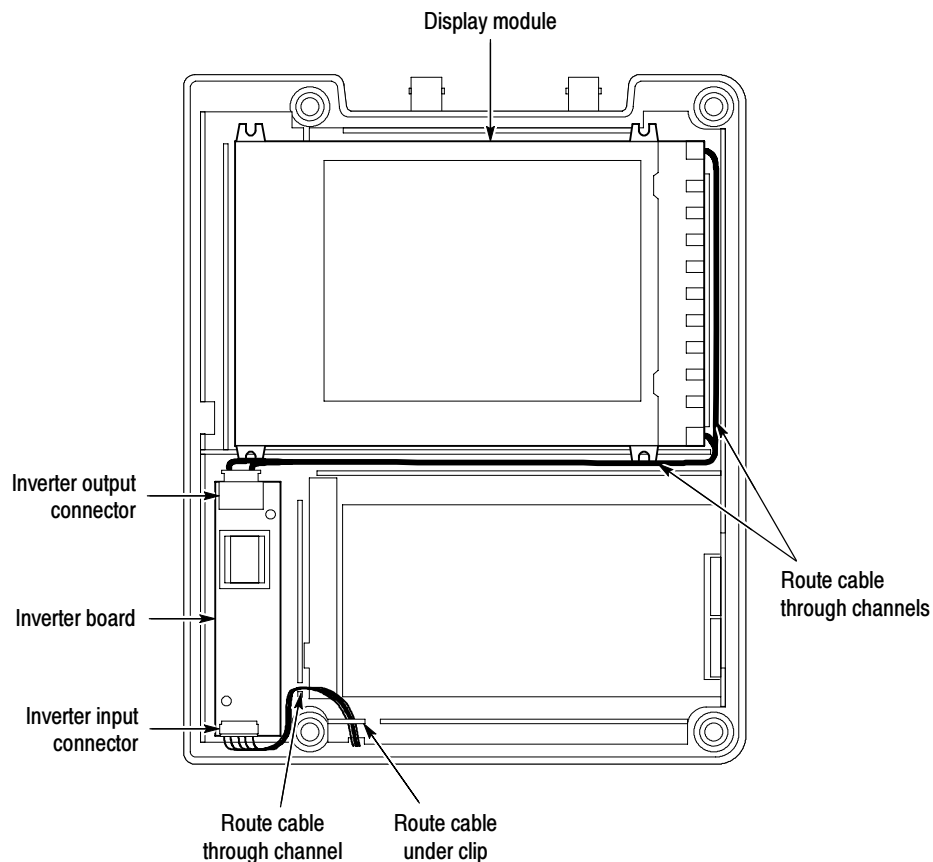

Figure 20: Routing cables to the inverter board
5. Plug the cable from the display module into the inverter board and then route the cable in the channels as shown in Figure 20.
7. Reconnect the connector to the bottom of the inverter board and route the wires as shown in Figure 20.